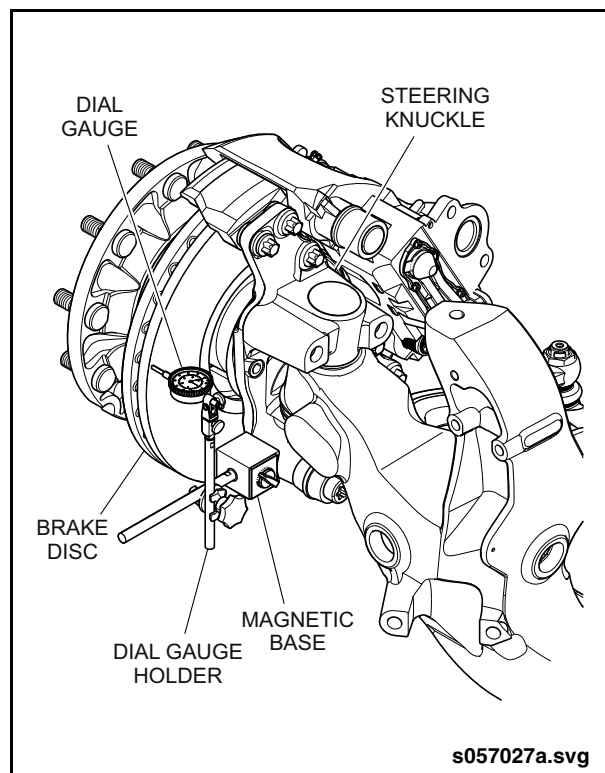

Fig. 1: Wheel Bearing Inspection
1. Attach the base of a magnetic dial gauge to any part of the steering knuckle. See "Fig. 1: Wheel Bearing Inspection" on page 2.